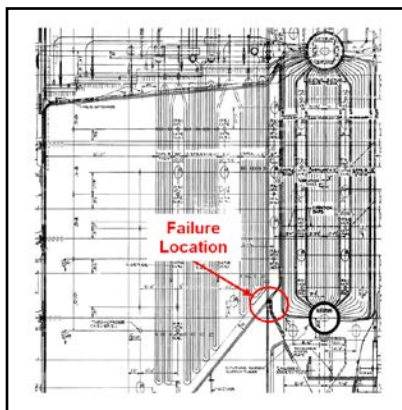

Figure 1 – Failure location
A problem has been detected on two-drum Babcock & Wilcox (B&W) recovery boilers where the generating bank hopper and sidewall casing attach to the furnace sidewall membrane wall tubes. Units that have a history of severe generating bank pluggage are believed to be more susceptible. Because the damage may initiate by stress-assisted corrosion cracks at the inside diameter (ID) of the tube, early detection requires nondestructive examination of the second sidewall tube in the vicinity of the generating bank sidewall casing attachment. See Figure 1.